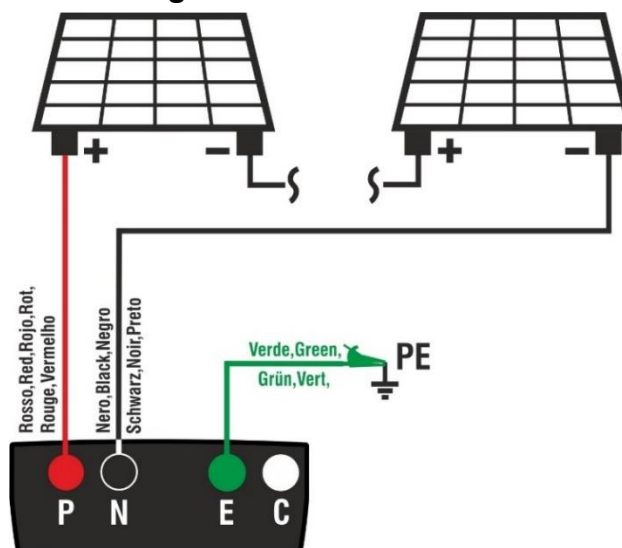

Fig. 9: Instrument connection for insulation measurement in GFL mode
- Connect the instrument to the PV string to be tested as shown in Fig. 9. **Please remember that it is also necessary to separate possible overvoltage protections connected to the cables of the string, and that it is recommended to measure upstream of possible blocking diodes.**